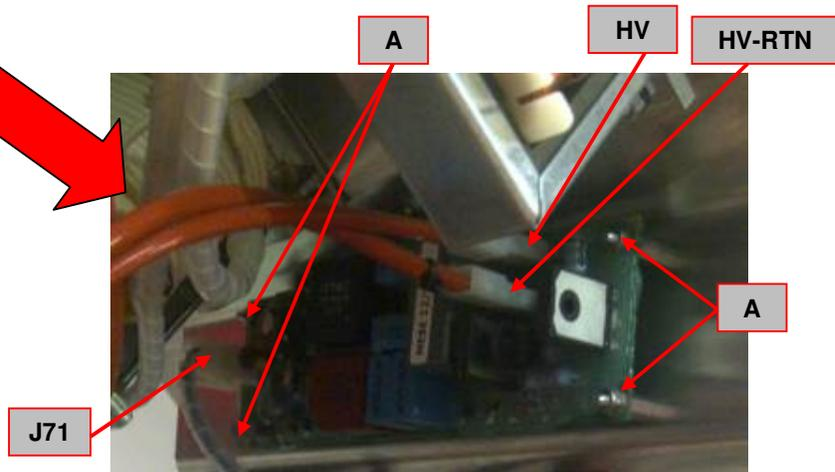

Figure 45
4. Disconnect the two HF transformer terminals **HV** and **HV-RTN**. Take note about the lead marked with a black tie , it must be re-connected to the same terminal. See **Figure 45**
5. Remove connector J71 from HF board. See **Figure 45**
6. Using the 5,5 mm wrench remove the 4 nuts (**A**) that fix the HF board to the machine frame. See **Figure 45**